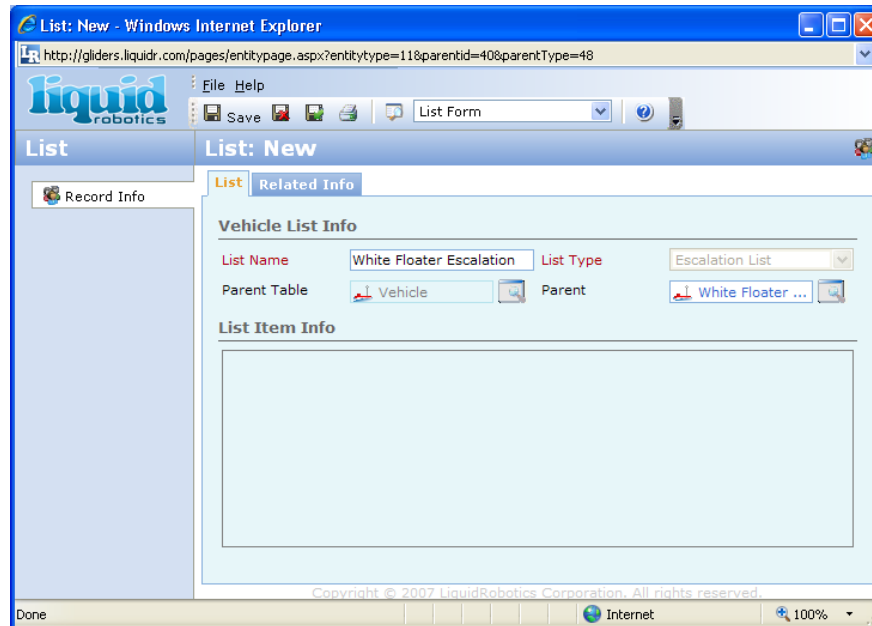

Figure 4-31: New List Dialog Example
- 3) Click on the "New" [New List] icon. This will bring up the New List dialog box shown below in Figure 4-31.